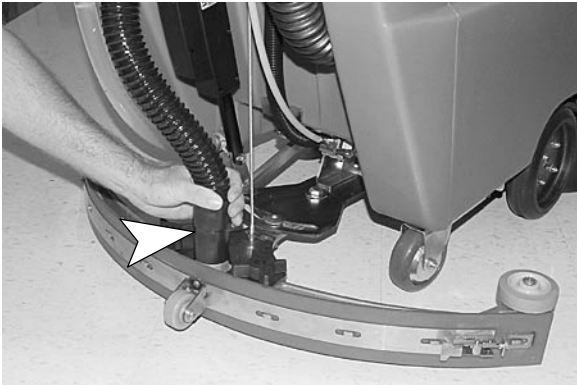

FIG. 5
5. Connect vacuum hose from machine to squeegee assembly (Figure 5).